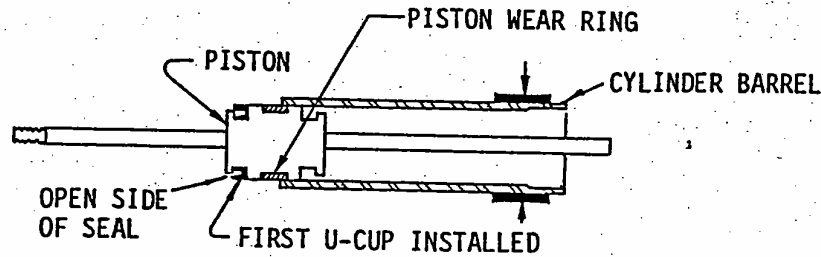

Fig. 6.
3. Install piston wear ring around center groove of piston before installing piston rod assembly into cylinder barrel. For position of wear ring see Fig. 6.
1. Insert the piston rod into the cylinder barrel so that one-half of the piston is visible. The piston seal is started in its groove and slowly worked around the circumference with a screwdriver. Use care when doing this operation so as not to damage the new seal or the piston. Be certain to install the piston seal pointing in the correct direction (as shown). See Fig. 6.